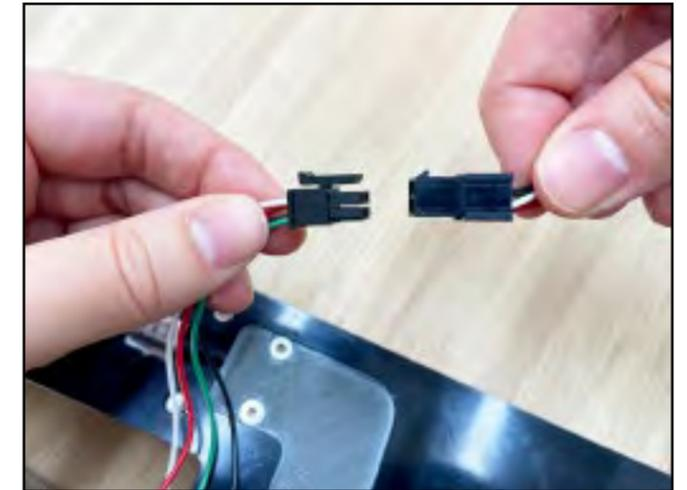

Figure 3-3
2. Connect the 4-pin power and the 3-pin BitSetter leads to the corresponding extension cables exiting the front of the rail. See *Figs. 3-3 and 3-4*.
NOTE: Connectors are polarized and will only connect one way. Do not force a connection. See *Fig. 3-3*.